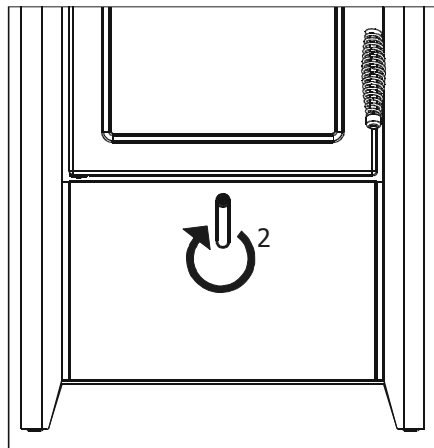

Fig.5 Secondary air inlet
Secondary air, as mentioned above, allows the completion of combustion and increases the efficiency (lever in pos.2 - fig.5).
The position of the lever in fig.5 determines the nominal output, minimizing primary air and the secondary air inlet.